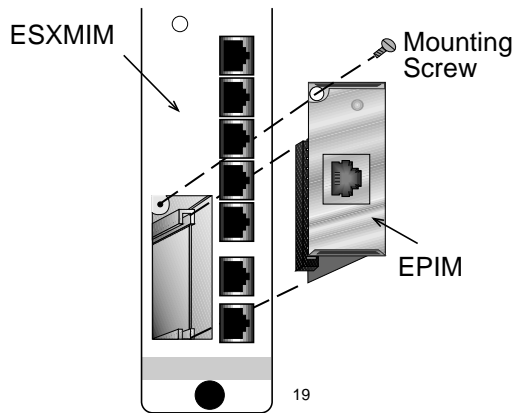

Figure C-2 Installing an EPIM
2. Slide your new EPIM into place, making sure the connectors on the rear of the module and inside the ESXMIM attach properly. Refer to Figure C-2.